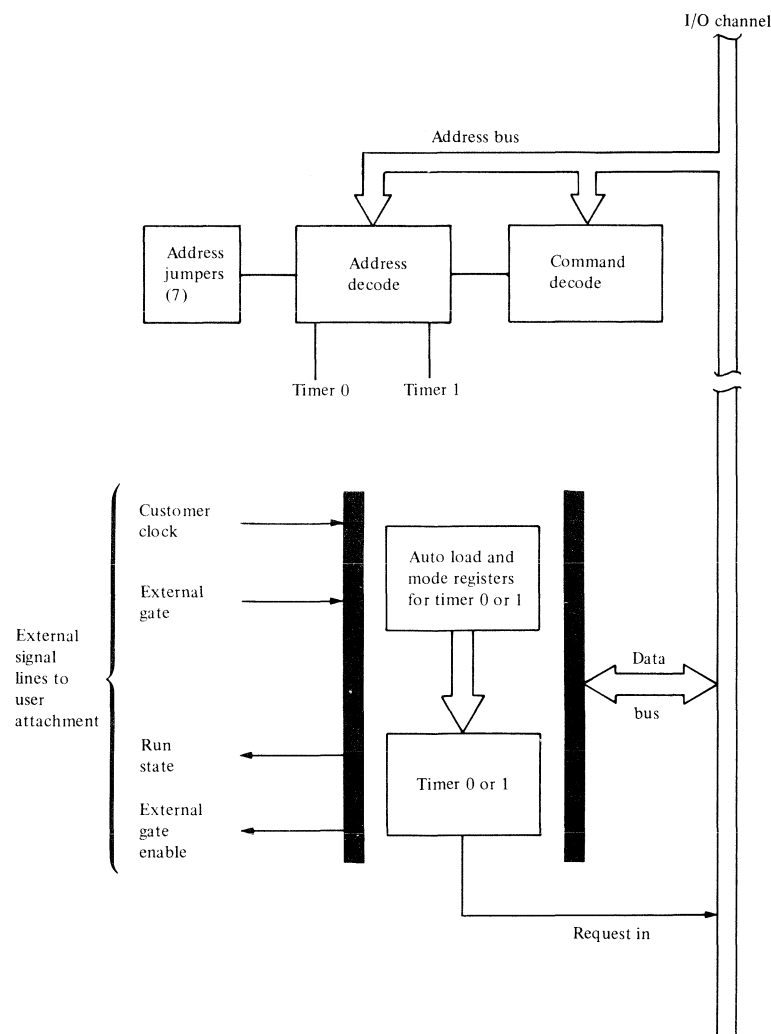

Figure 2-1. Timer feature block diagram
The timer feature has two separately addressable 16-bit timers on one attachment card (Figure 2-1). Each timer can be used as (1) an interval timer, (2) a pulse counter, or (3) a pulse duration counter. (See “Application Examples” at the end of this chapter for more details of these uses.)
As shown in Figure 2-1, each timer has four external signal lines for user attachments. These signal lines permit control of the timer by a user-provided timebase and gate. The signal lines are described in the following sections.